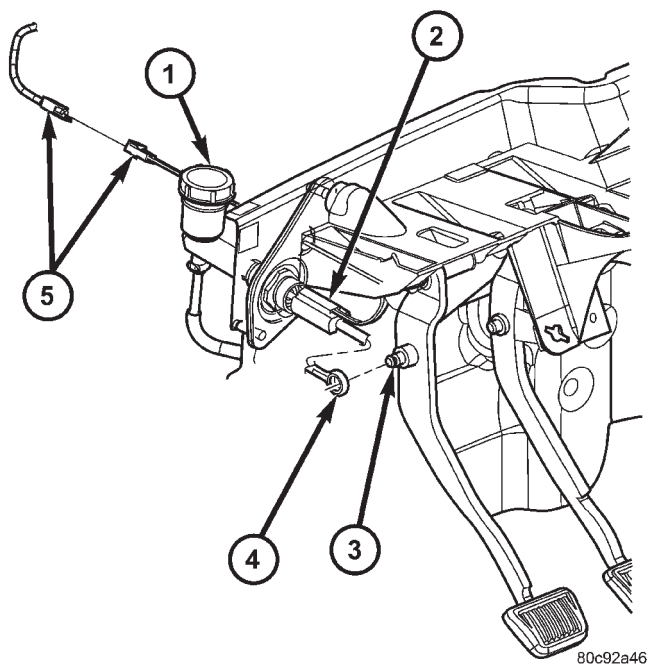

Fig. 8 CLUTCH PEDAL
- (1) Remove steering column lower cover and knee blocker for access.
- (2) Disconnect clutch pedal position switch wires.
- (3) Disengage captured bushing lock tabs attaching clutch master cylinder actuator to pedal pivot.
- (4) Remove nuts attaching pedal and bracket to dash panel and upper cowl support (Fig. 8).
- (5) Separate pedal assembly from vehicle.